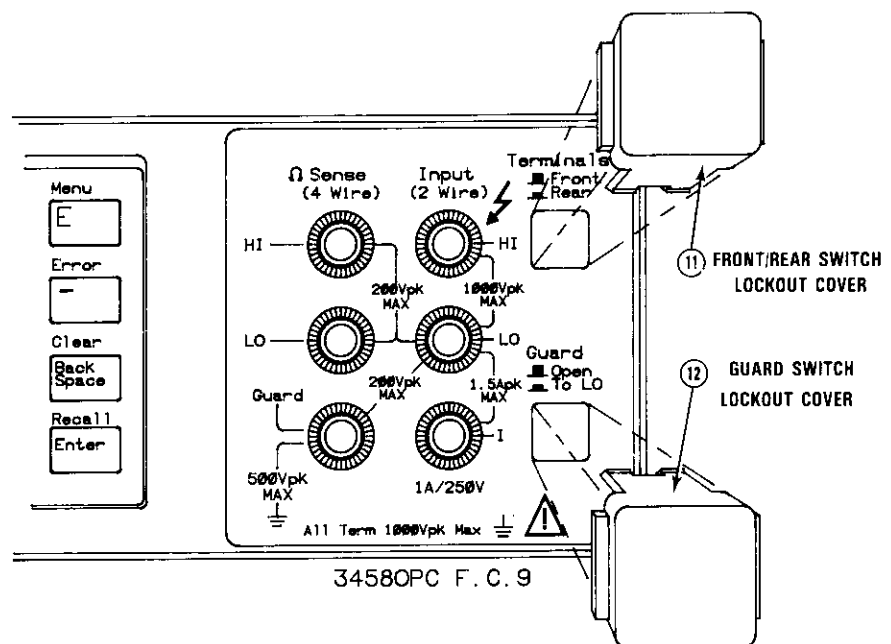

Figure C-9. Switch Covers Installation
1. Refer to Figure C-9. Turn the instrument so its front faces you.
3. Locate the little square covers that came in the switch lockout kit, as shown in Figure C-9.